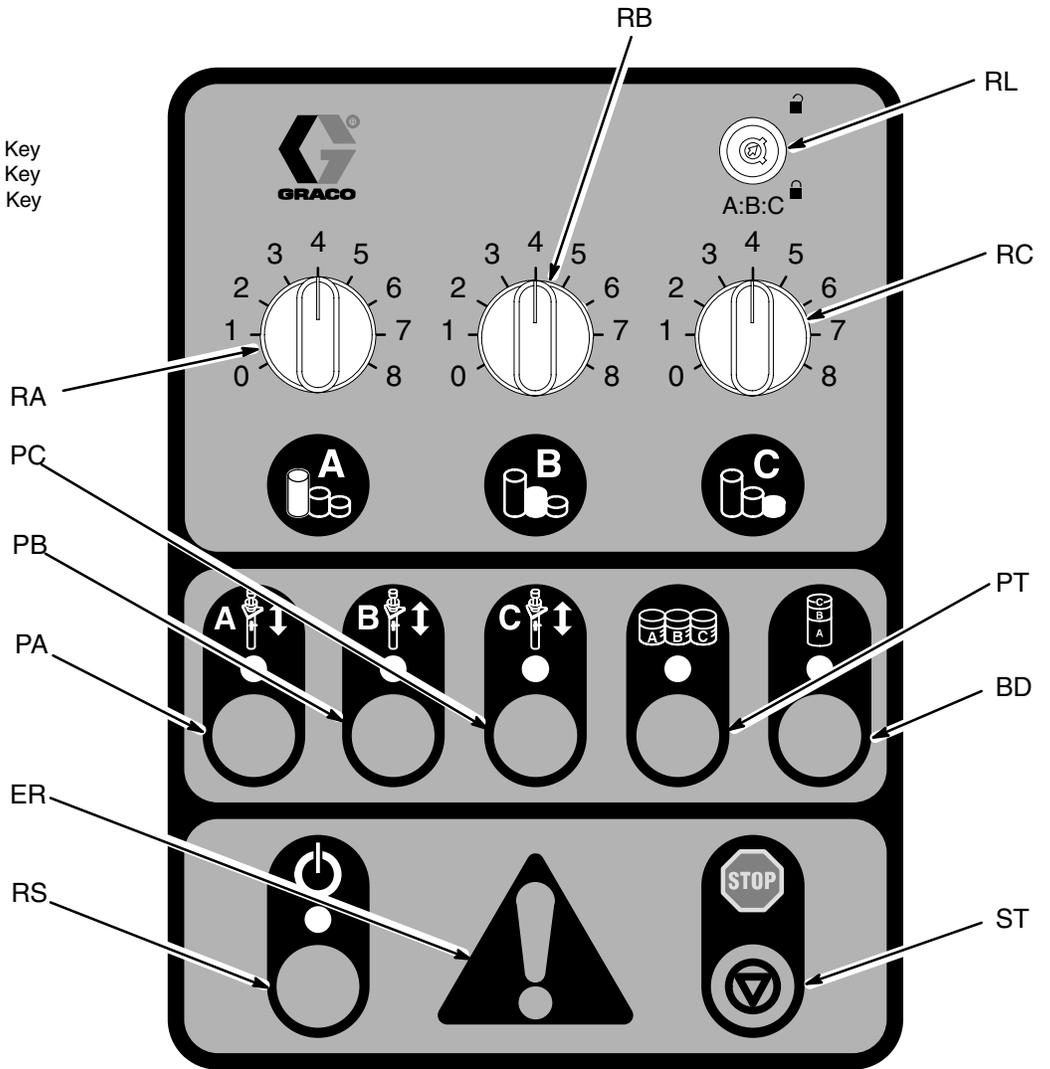

Fig. 6
11. See Fig. 6. Press the pump A independent run key (PA). Gradually open the pump air regulator (H) until the pump begins to cycle. Pump A will run independently. Trigger the gun into a grounded waste container until component A flows from the gun. If necessary, press the key again to dispense the required amount.